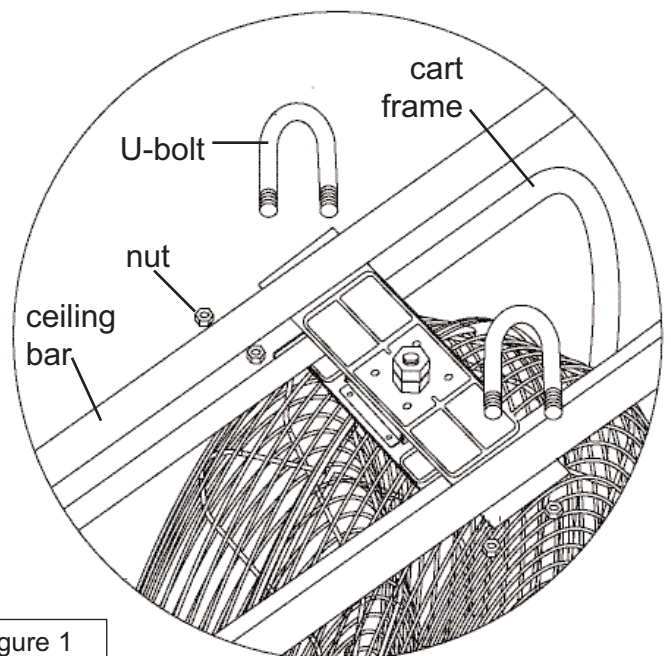

figure 1
1. Attach Cart Frame to Ceiling beam using U-bolts shown in Figure 1.